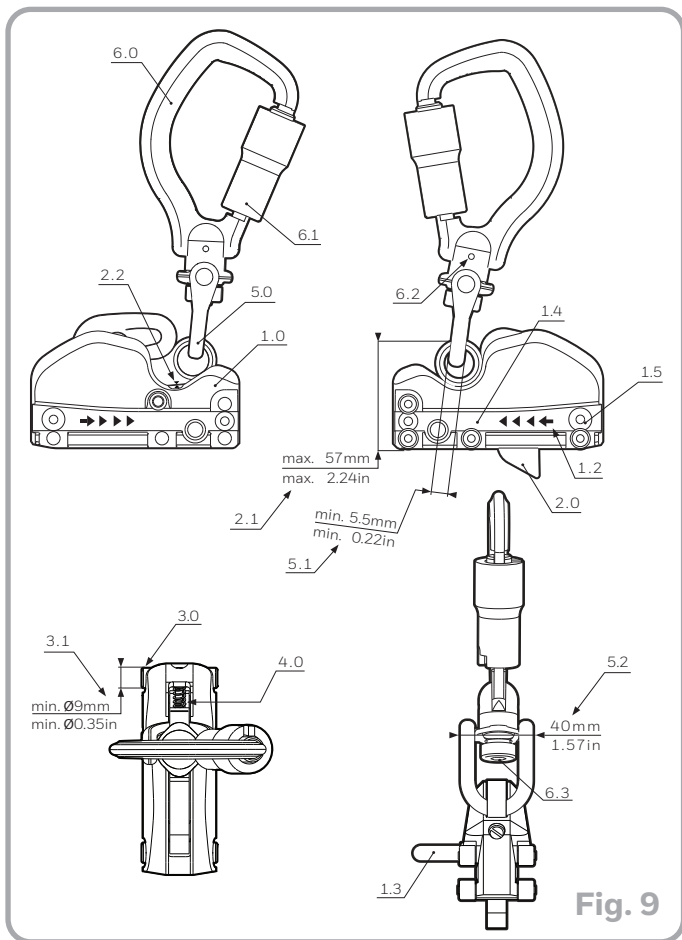

Fig. 9
- 2.2.4 Before each use it is necessary to check that all components of the fall arrester are moving freely, especially the safety catch, the shock absorber must not be deformed. To check, lift the catch nose to reveal the fall indication arrows (see Fig. 9 detail 2.2). Fall indication arrows must be aligned and pointing to each other.